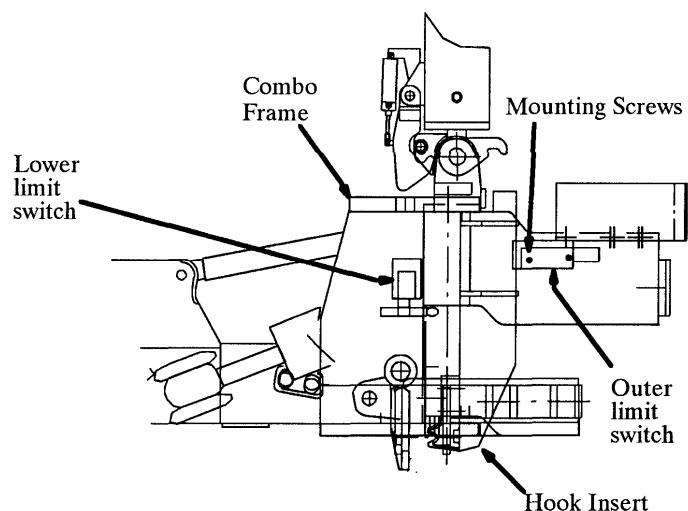

Figure 4-46
3. Measure from the outside edge of the hook insert to the web of the rail. This measurement should exceed the measurement from step 1 by  $\frac{1}{2}$  inch (12 mm). Refer to figure 4-46.
4. Adjust as necessary. Loosen the two (2) mounting screws and slide the limit switch horizontally.